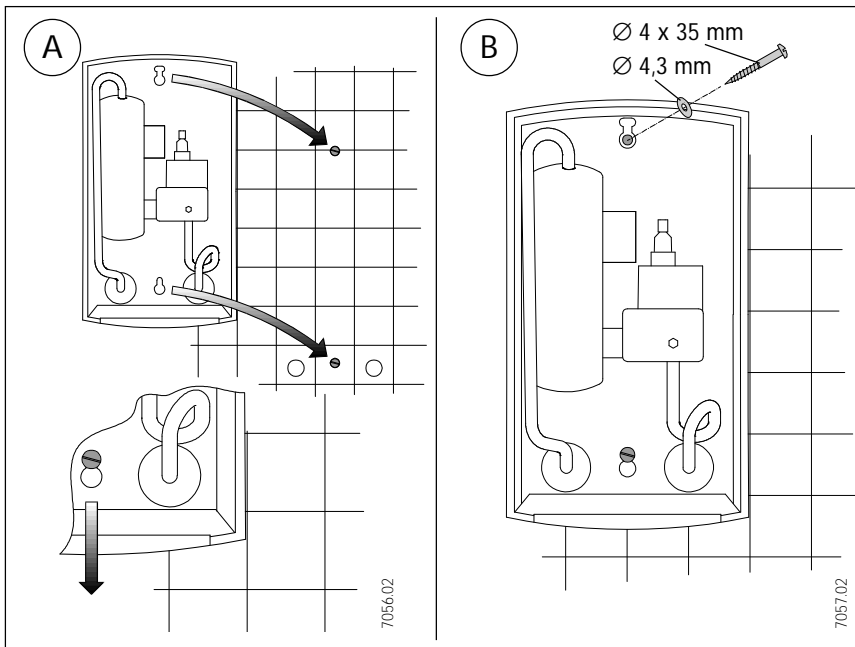
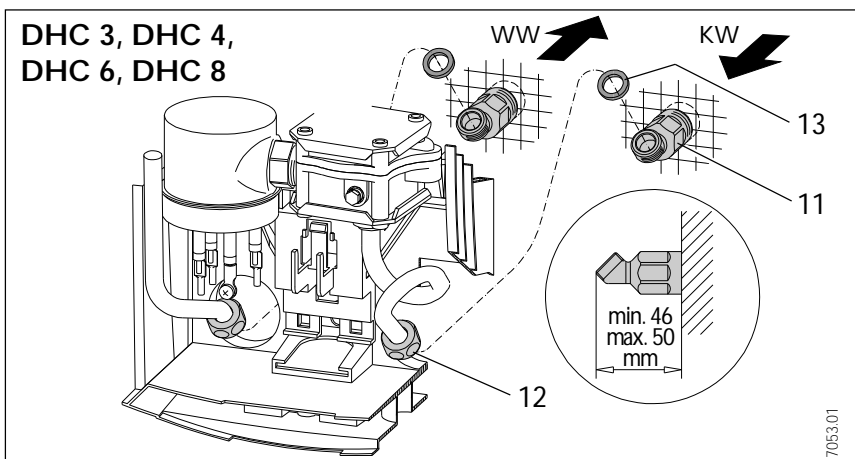

Fig. 9
Fig. 12
2. Install water connection components in accordance with Figs. 12 and 13 respectively.
**Note:** When replacing an old DHC unit (old screw holes can be used), do not screw in the upper screw until after the new unit has been fitted (Fig. 9 B).
5. For **concealed connections**, screw the water connection into the wall diaphragm in accordance with Fig. 12. Guide the unit over the screws and push downwards (Fig. 9 A).
**Concealed connection** (Fig. 12)